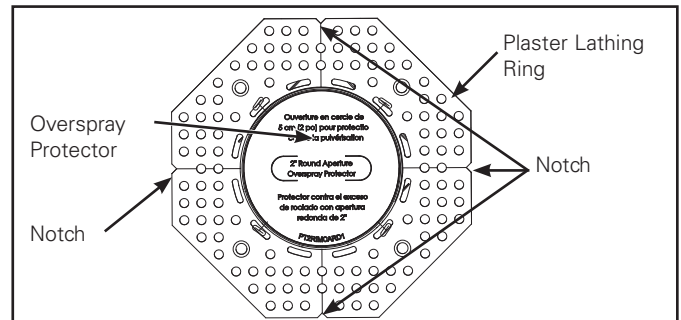

Figure 1.
1. Remove plaster ring from packaging and remove overspray protector (Figure 1) **DO NOT DISCARD**.
5. Locate notches on the outer rim of the lathing ring (see Figure 1).